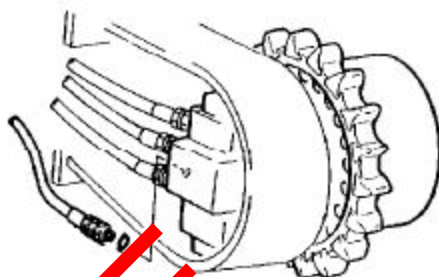

Fig 7.
- 7 Remove the motor cover, attach identification tags to the motor hoses, disconnect the hoses from the motor and install plugs and caps ⇒ Fig 7. \(□ F-6\).